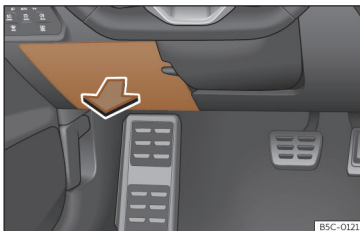

Fig. 51 On the driver's side dashboard: fuse box cover.
- *Open*: fold the cover down»» **Fig. 51**.